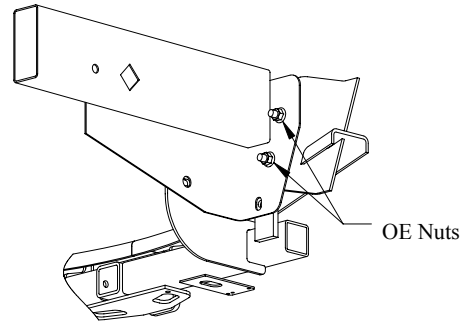

FIGURE 2
2. If the small brackets on the hitch do not go between the ends of the saddle bracket on the vehicle's bumper, the bumper may be loosened and recentered. **After adjustment, tighten the M14 OE flange nuts to 148 lb.-ft (201 N-m).** See Figure 2.